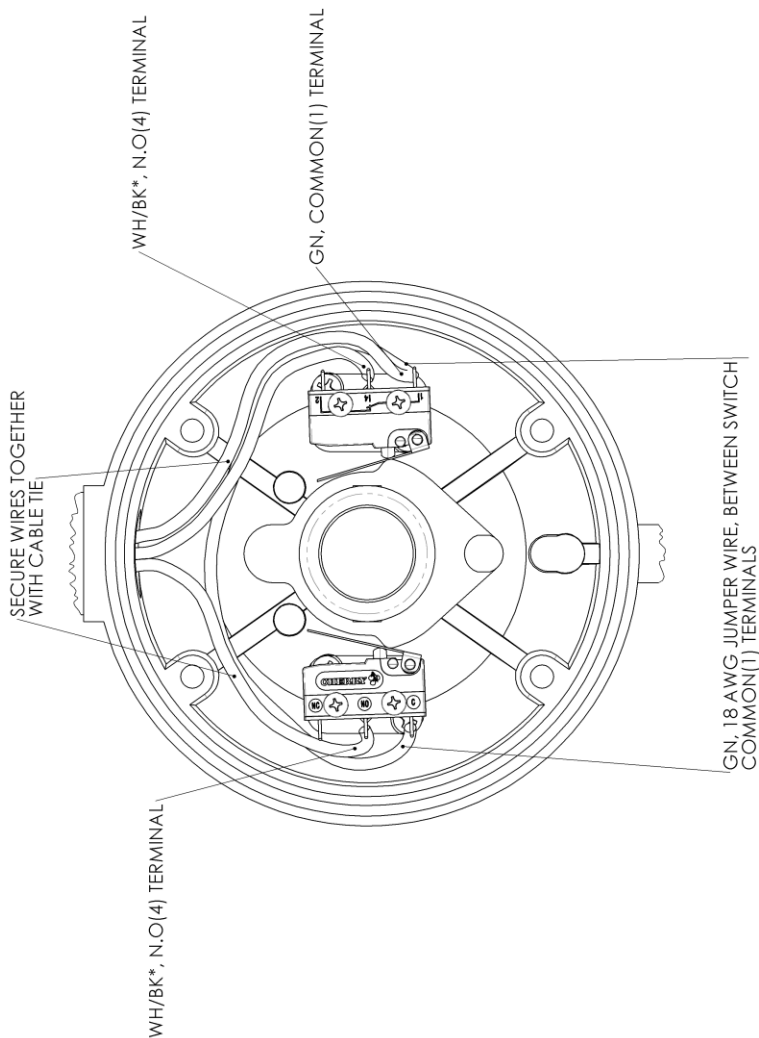
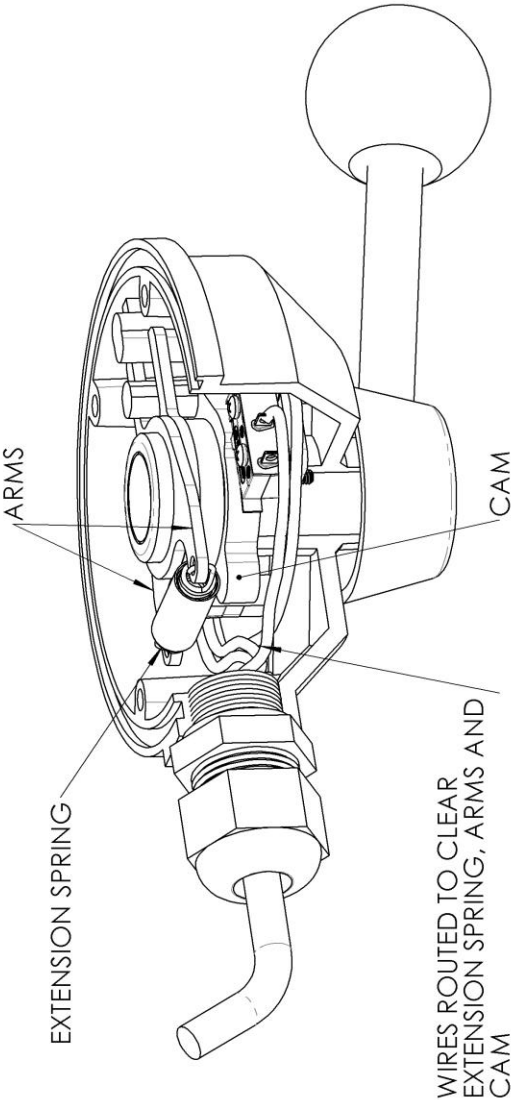
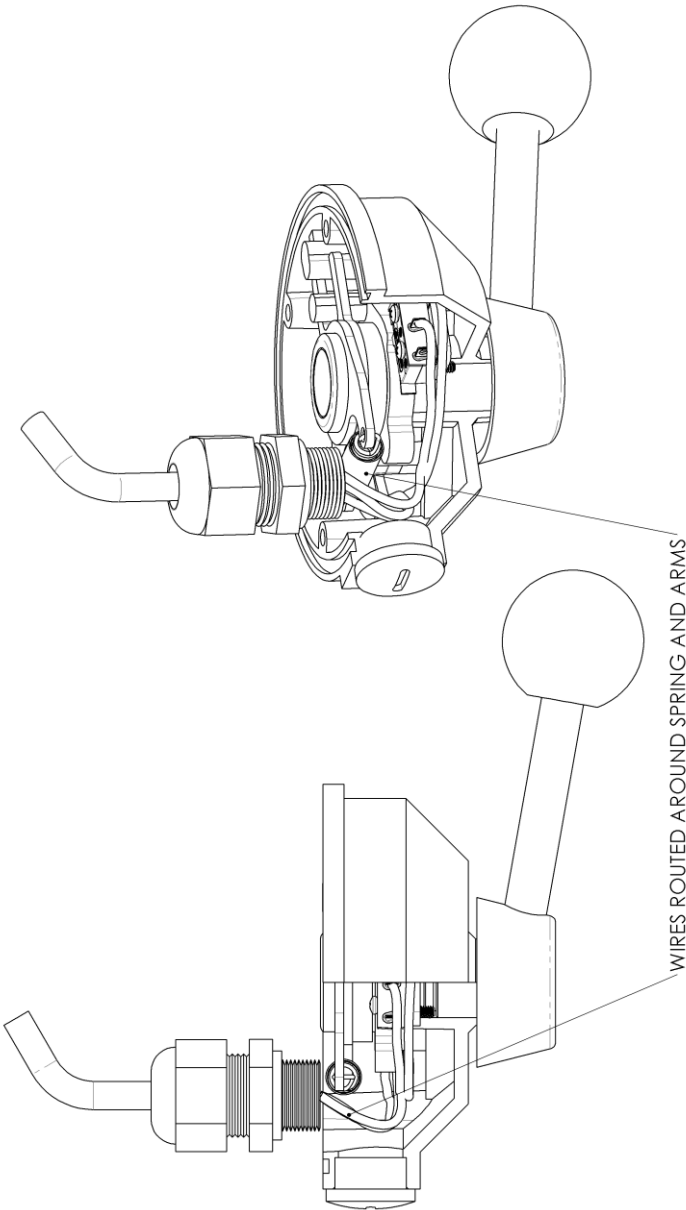

Figure 12: Wire connections and routing for new microswitch, 7170-A1 shown.
Figure 13: Wire routing showing particular parts to ensure adequate clearance, 7170-A1 shown.
Figure 14: Wire routing for under dash jog levers, 7170-A2 is shown
- a. The actuation lever of microswitch ② is clear of any obstructions through its range of motion.
- b. The microswitch ② lever is depressed enough to actuate the switch contacts when the jog lever is pushed. This can be done by checking for continuity across the Normally Open(N.O) terminal 4 and the Common(C) terminal 1. See Figure 12 for clarity on terminals being checked. When the switch is depressed, terminal 1 and 4 should have continuity.
- c. The microswitch ② lever is raised enough to open the switch contacts when the jog is in its rest position. This can be done by checking for an open circuit(no continuity) across the Normally Open and Common terminals. When the jog lever is in its rest position, there should be no continuity across terminal 1 and 4.
It is recommended to route the wire as shown in Figure 12 and Figure 13 for an over dash(7170-X1) jog. For the under-dash model(7170-X2), the routing from the switches stays the same as over dash models while the wire routing going into the gland connection can be done as suggested in Figure 14.
13. Solder the wires to the terminals of the new microswitches as shown in Figure 12. Keep the white and black wires routed to the same side as with the previous switches as noted in step 1.
16. Use X2 plastic cable ties to secure the routed wires together in the positions indicated in Figure 12.